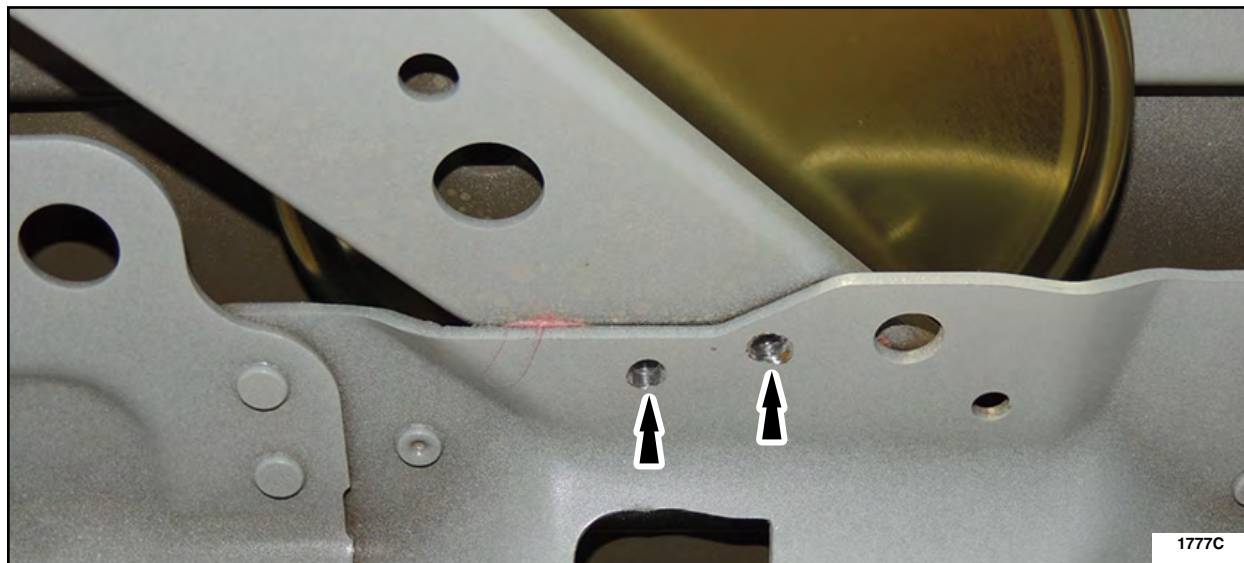

FIGURE 4
5. Temporarily position a suitable flat piece of metal above the RH and LH roof K-brace to prevent damage to the roof sheet metal. See Figure 4.
NOTE: Figure 4 shows a clean paint can lid being used above the roof K-brace to protect the roof sheet metal.
6. Drill the previously marked roof K-brace holes on the RH and LH side. See Figure 4.